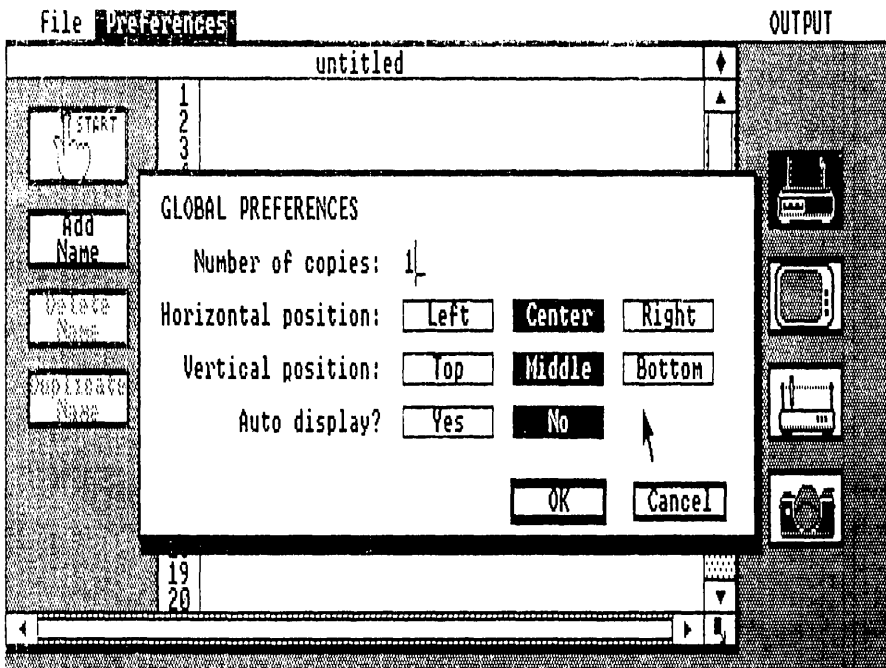

Fig. A-12. The Global . . . command is a new addition to OUTPUT 2.1.
**Global . . .** This command controls the preferences for all output devices, regardless of their type. For example, the number of output copies is set with this command (Fig. A-12).